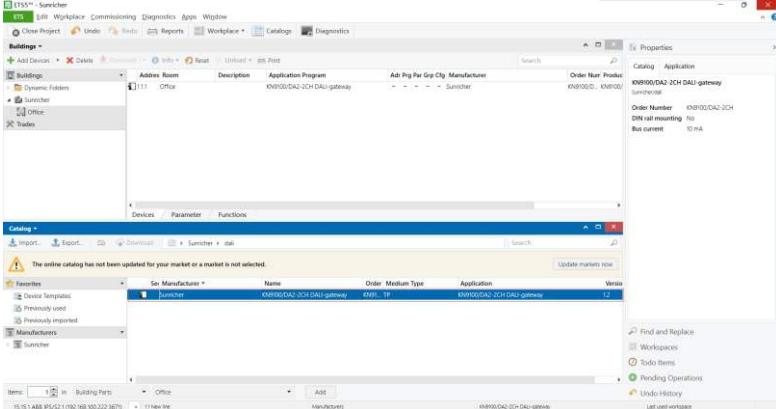

Figure 23
2.9. Previously imported gateway database will be shown, double click on the imported gateway to add it to the created room as shown in Figure 23. Once it is added to the room, click on the drop down button of the room on the left, you can see the added device, click on it, the device “Group Objects”, “Channels”, “Parameter” will be shown on the right side of the window.